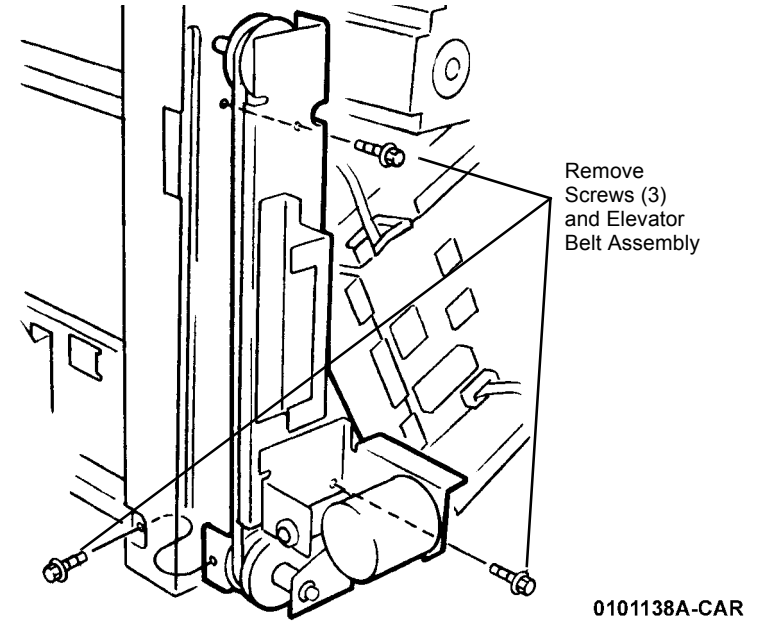

Figure 6 Removing Elevator Belt Assembly
7. Remove Front Elevator Bracket (Figure 6).